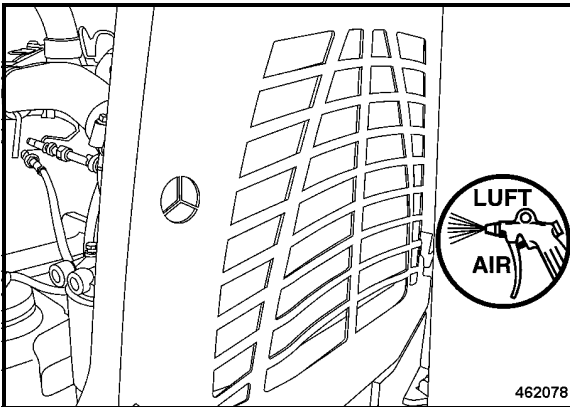

Fig. 138
- Blow the hydraulic oil cooler (Fig. 138) out with compressed air.